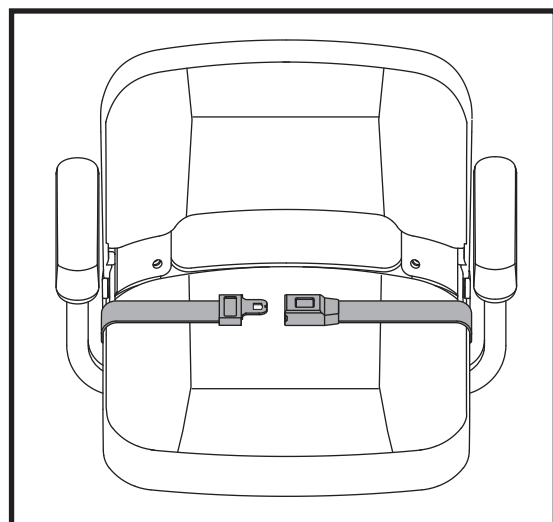

Figure 29. Positioning Belt - Metal Tab Style
Your scooter seat may be equipped with an auto-type positioning belt that can be adjusted for operator comfort. **See figure 29 or 30.** The positioning belt is designed to help support the operator so that he or she does not slide down or forward in the seat. The positioning belt is not designed for use as a restraining device.
1. Insert the metal tab on the right side of the belt into the plastic housing on the opposite strap until you hear a “click.” **See figure 29.**